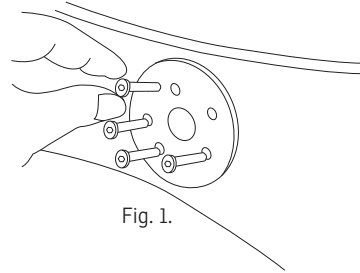

Fig. 1.
Begin by inserting 5 long screw (D) through holes on plate (C) under bottom of ring base (B) as shown in fig. 1.